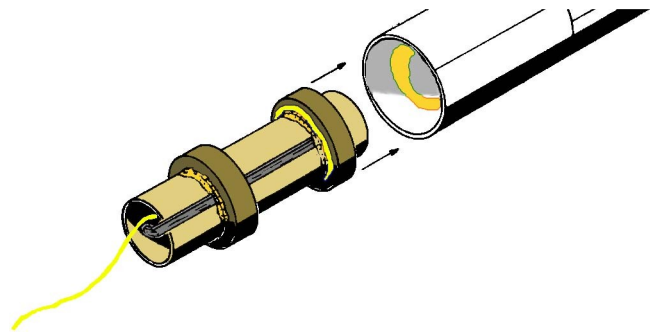

Figure 6
- **Step 11** Push the Kevlar thread down through the center of the mount and pull the excess out of the way. As shown in Fig.6, apply a generous bead of glue up inside the **bottom end** of the body tube, about 1.5” from the edge. With **one continuous motion**, push the engine mount into the body tube and through the glue, until the bottom edge of the motor tube is even with the bottom edge of the body tube. Do not stop during this push, or the glue will “freeze” the mount in the wrong place. Set aside in a vertical attitude, top end up, for about an hour to let the glue dry..